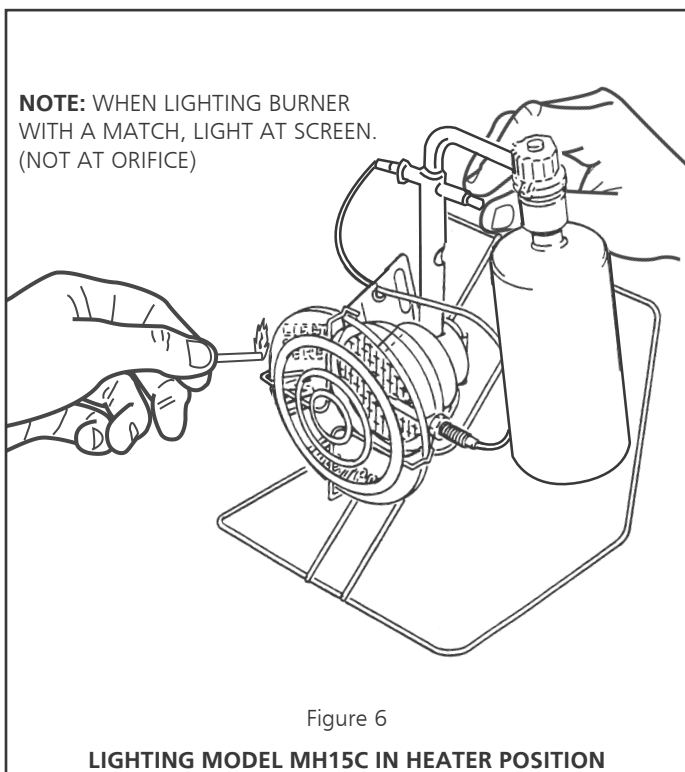

Figure 6
- F. **USE OF HEATER:** Always operate the heater in heating position (see Figure 6) or cooking position (see Figure 5) on a level noncombustible surface. **NEVER** place the propane cylinder on its side when operating the heater. In cooking position cylinder must be 30 degrees from horizontal.
- To light MH15C, place a lit match across the mesh screen where you see "light here" on reflector. (See Fig. 6). THEN push in valve button on Safety Shutoff Valve. After the heater is lit, continue to hold valve button in for 30 seconds, then release the button slowly. **CAUTION: DO NOT PUSH IN VALVE BUTTON BEFORE INSERTING LIT MATCH.**